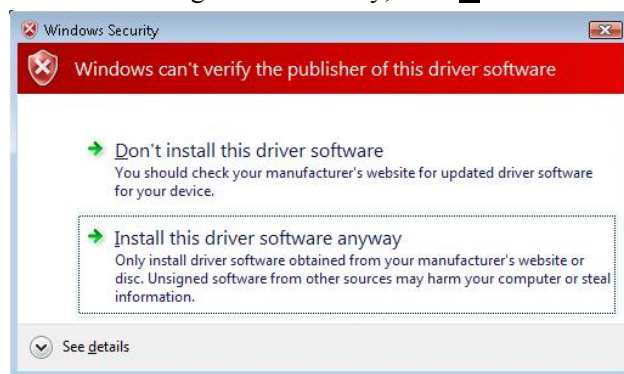

Figure 5.28
6. Choose **Install this driver software anyway** in Figure 5.28. The installation complete screen appears.